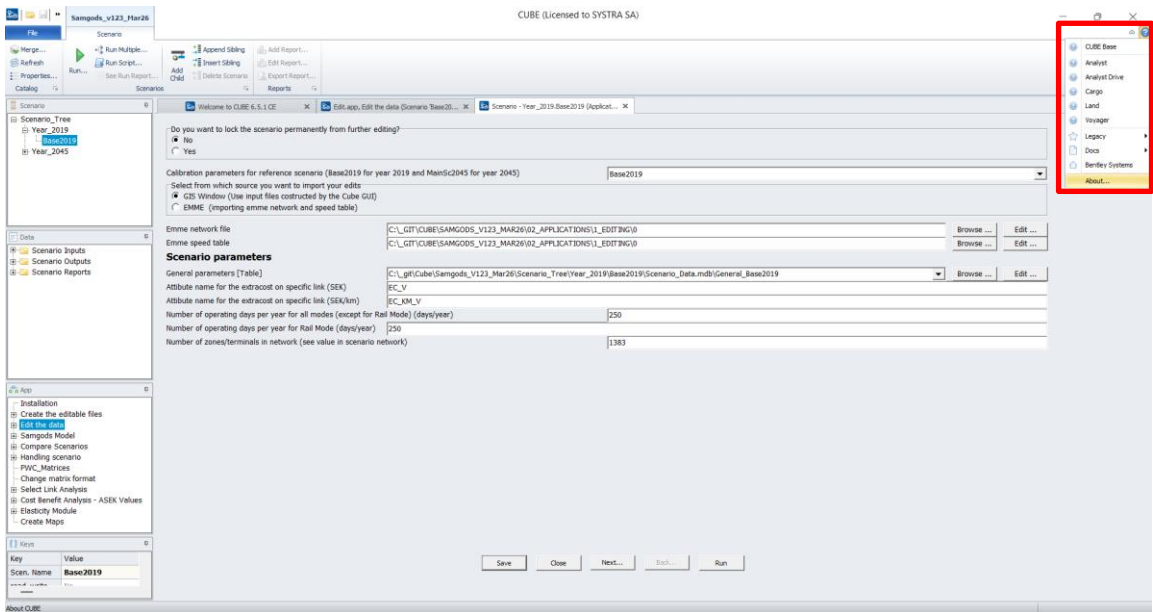
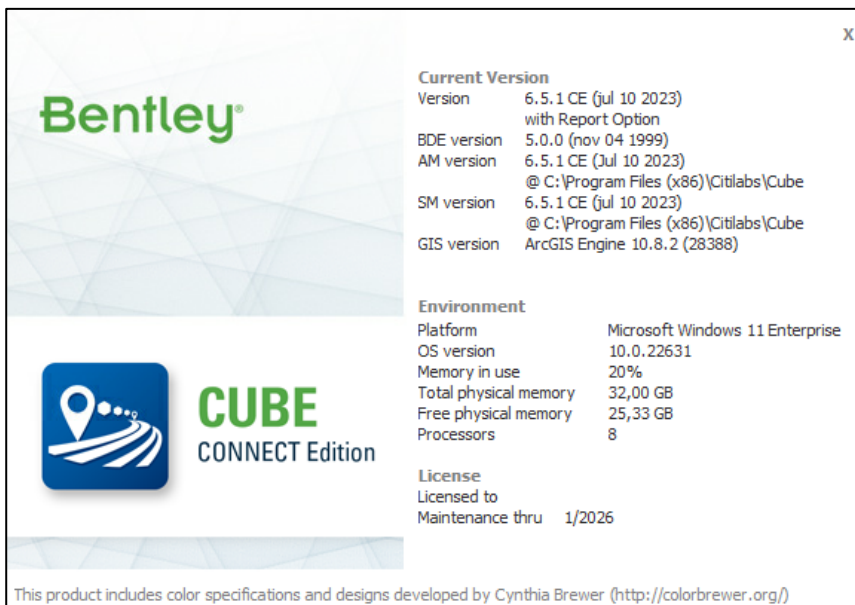

Figure 6 How to access the “About ...” information
Figure 7 Example of the “About ...” window
* To properly set the values for the catalogue keys indicated with *, see the information under the Menu Bar; Help -> About (see Figure 6 and Figure 7 below for an example).